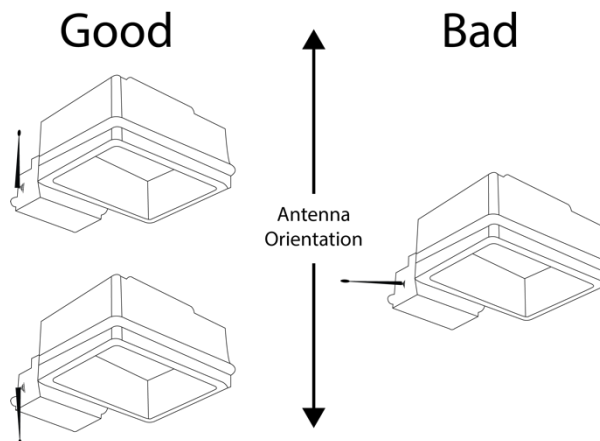

Figure 1 - Proper Antenna Installation
- When installing the DIM10-087-06-A into an enclosure, consideration of the external antenna position and any interference is required to provide the best wireless signal strength. Prior to permanently mounting it, make sure the antenna points directly upward or downward and is free of any metal objects within 2 inches of the antenna (Figure 1).